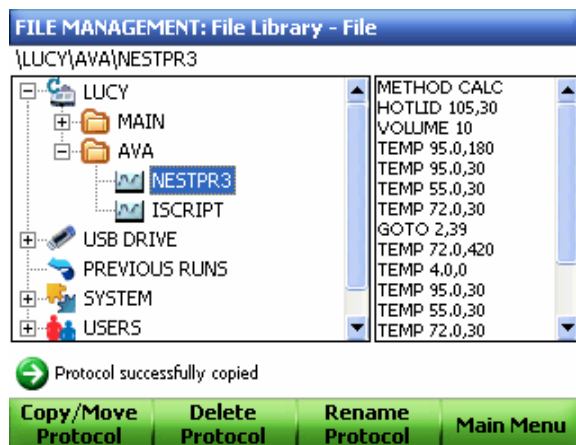

Figure 91. The protocol was successfully copied.
- Select **Yes** to confirm that the protocol was successfully copied (Figure 91).